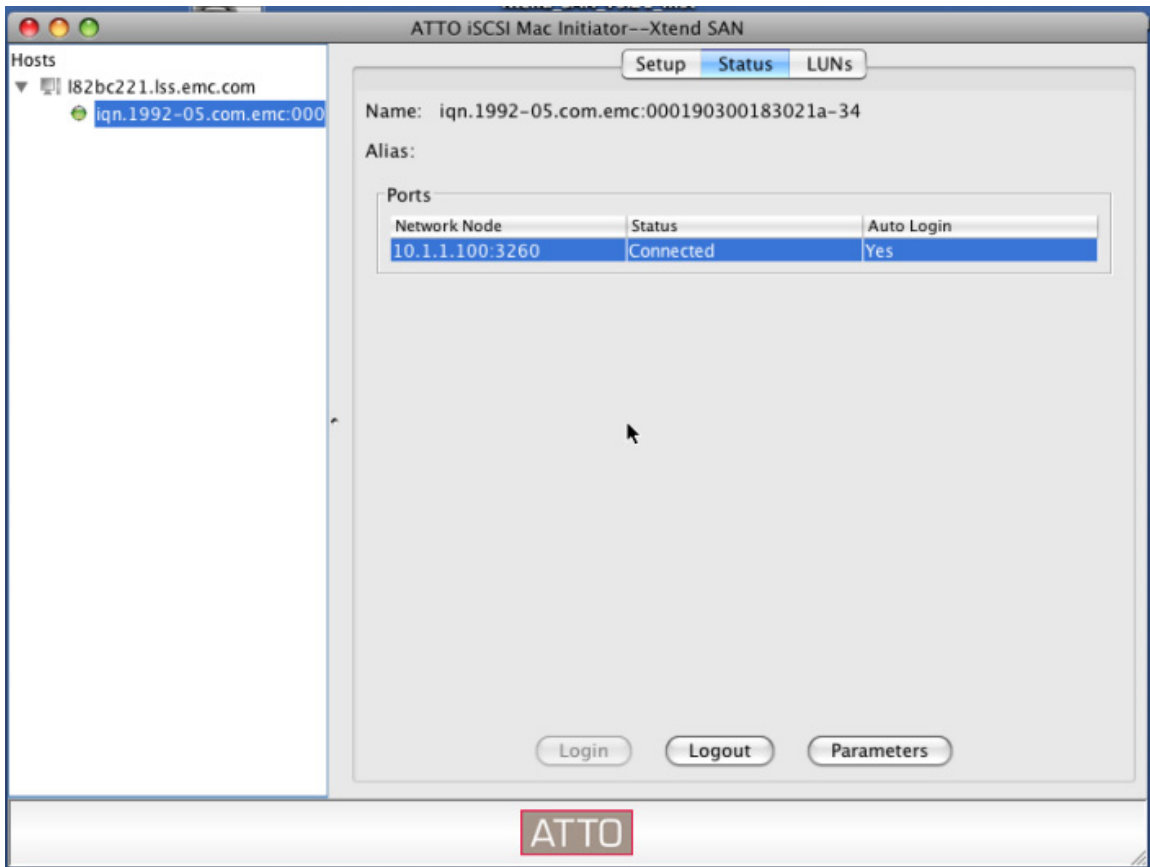

Figure 17 Green icon beside iqn in left panel shows connection
12. When the operation is complete, the red icon beside the iqn name in the left panel turns green, as shown in Figure 17.